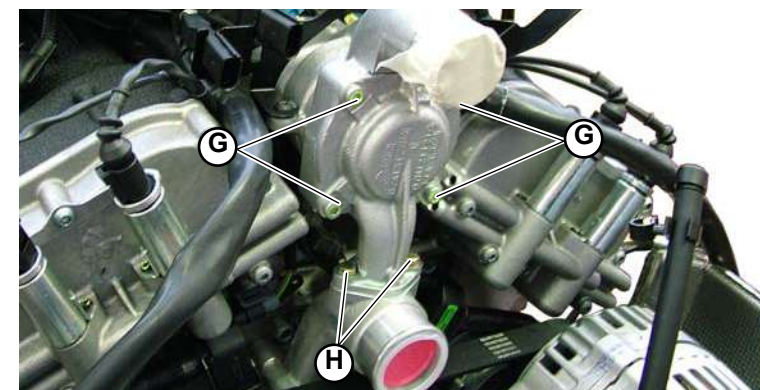

Fig.5
6. Remove the 4 upper screws (**G-Fig.5**) and the 2 lower screws (**H-Fig.5**) that secure the thermostatic valve cover.